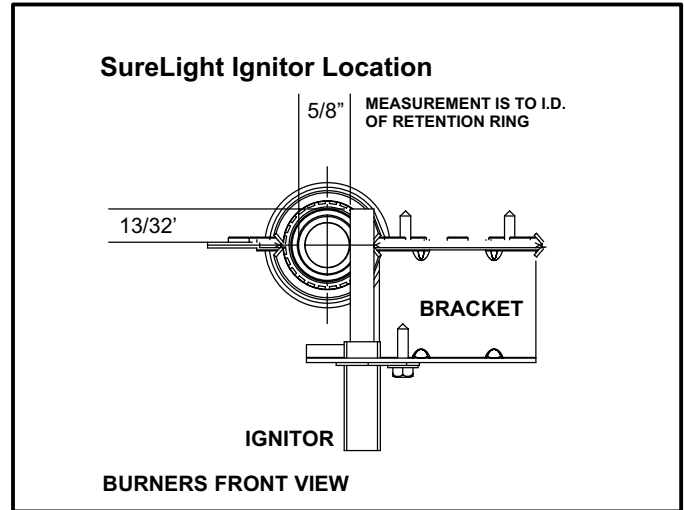
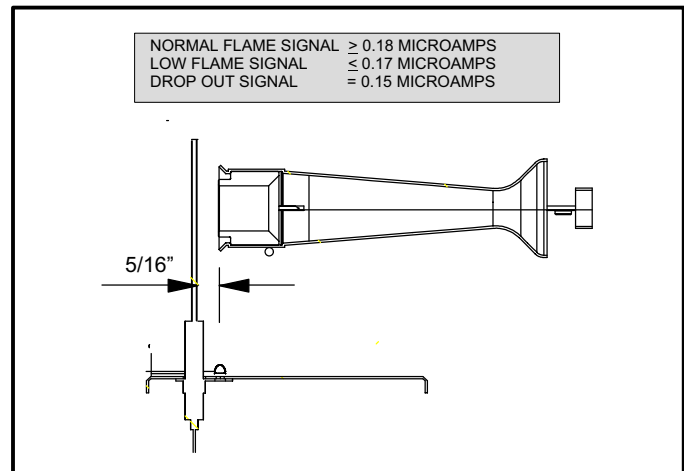

FIGURE 6
FIGURE 7
All G41UF model units are equipped with the Lennox SureLight ignition system. The system consists of ignition control board (figure 5 with control terminal designations in table 3), ignitor (figure 6) and sensor (figure 7). The board and ignitor work in combination to ensure furnace ignition and ignitor durability. The SureLight integrated board controls all major furnace operations. The board also features two LED lights for troubleshooting and two accessory terminals rated at (1) one amp. Tables 1 and 2 show jack plug terminal designations. See table 4 for troubleshooting diagnostic codes. The SureLight ignitor is made of durable silicon-nitride. Ignitor longevity is also enhanced by voltage ramping by the control board. The board finds the lowest ignitor temperature which will successfully light the burner, thus increasing the life of the ignitor.
#### 4. Ignitor (Figure 6)
#### 5. Flame Sensor (Figure 7)